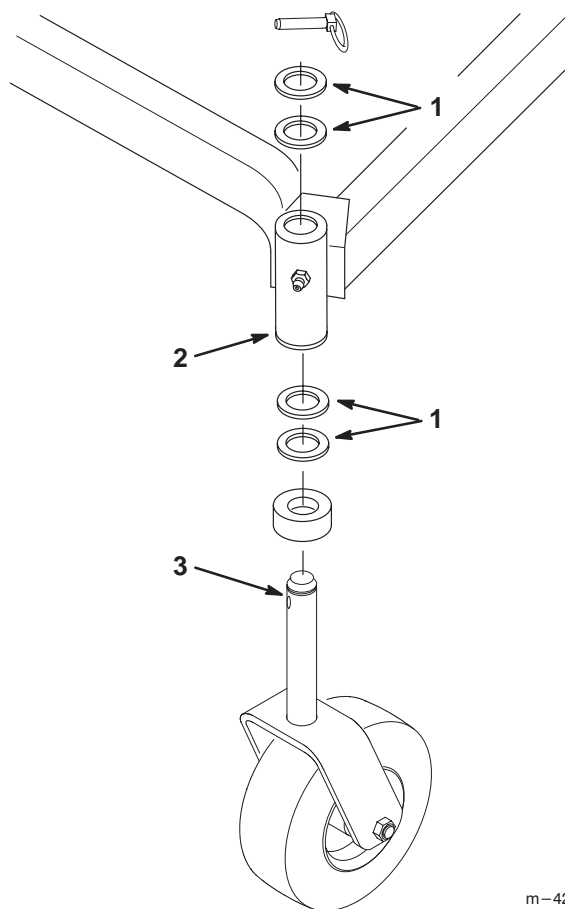

Figure 20
4. To change the front-to-rear pitch, move an equal number of thrust washers on both castor wheel forks. Move the thrust washers from the top of the carrier frame mounting tube to the bottom to raise the front of the mower. Move the thrust washers from the bottom of the mounting tube to the top to lower the front of the mower. (Fig. 20).
4. To change the side-to-side leveling, move the thrust washers on one castor wheel fork only. Move the thrust washers from the top of the carrier frame mounting tube to the bottom to raise the corresponding side of the mower. Move the thrust washers from the bottom of the mounting tube to the top to lower the corresponding side of the mower. (Fig. 20).